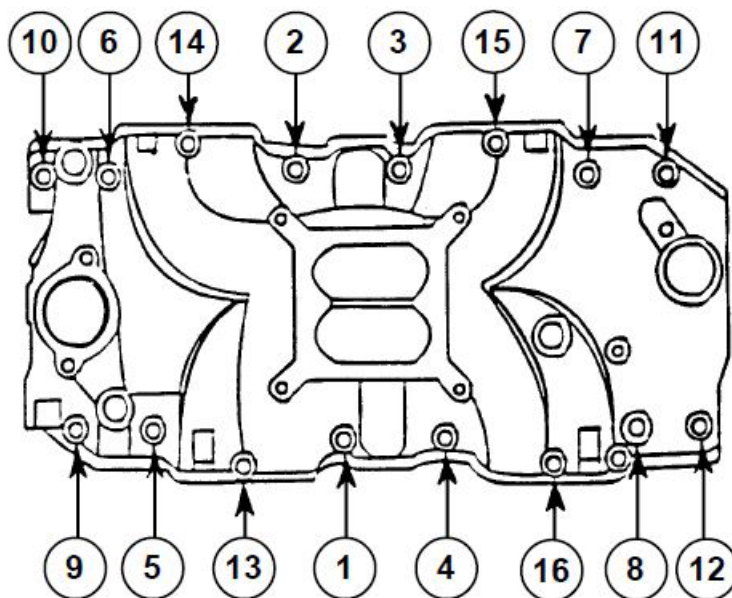

FIGURE 15
3. Insert and start the intake manifold bolts by hand. See Figure 15 for the bolt tightening sequence. Torque the intake manifold bolts to 25 ft-lbs.